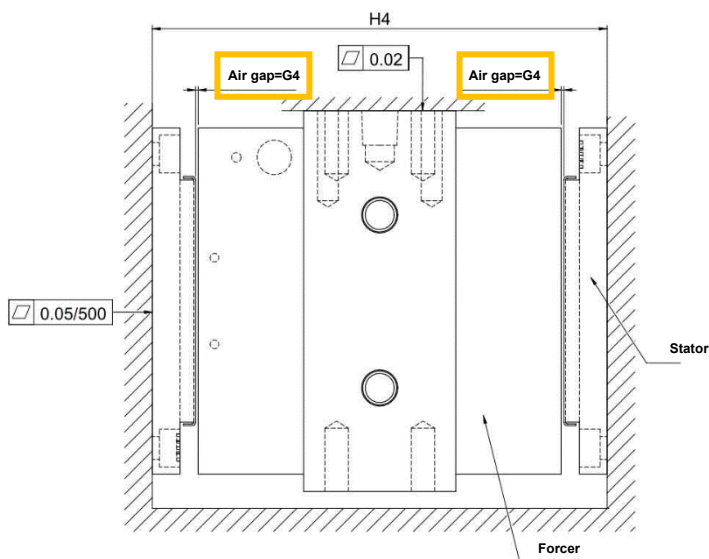

Figure 5.1-20 Air gap illustration
- ▶ Use thickness gauge to adjust the air gap (refer to Figure 5.1-20) to $0.75^{+0.25}_{-0.15}$.